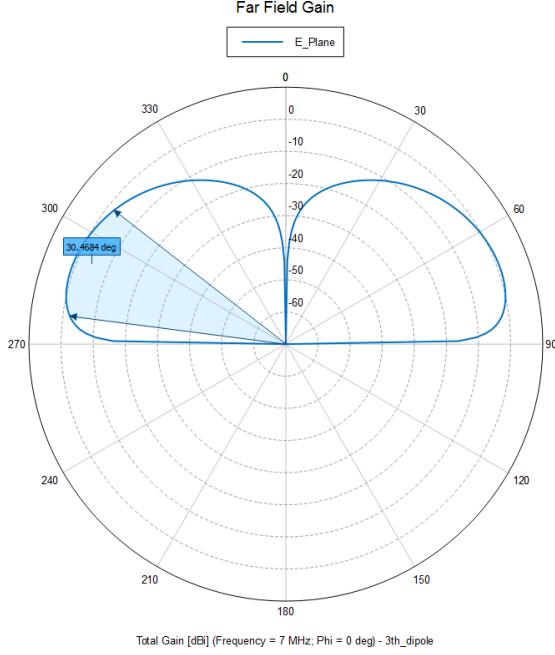
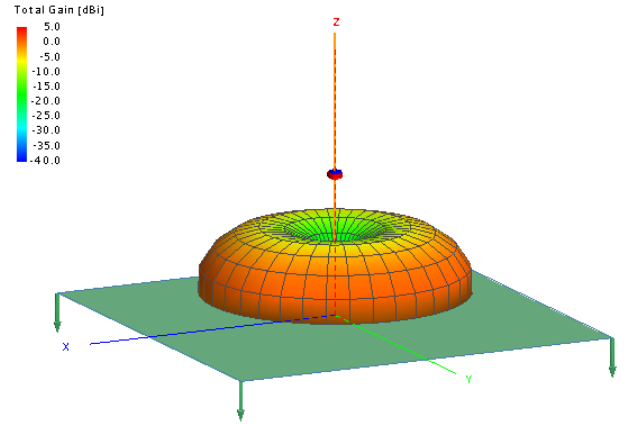

Fig. 7.  $\vec{E}$  field plot and 3dB beamwidth considering ground effects
Fig. 9.  $\vec{E}$  field plot considering a ground and 3dB beamwidth
1) *Effects on Gain:* After modeling the ground plane in FEKO, a change in the Gain was observed as shown in Figure 7. Here, it can be seen that the point where the transmission power is greatest is directed upwards such that  $\theta_{Ground} < \theta_{Ideal}$ .
4) *Effects on Radiation Pattern:* Having a ground plane under the antenna is akin to having a somewhat reflective surface under a tubular fluorescent lamp; RF energy that is reflected from the surface of the ground interferes with the waves that would otherwise travel straight, causing an overall change in the shape of the  $\vec{E}$  field shown in Figure 7. The 3D pattern is shown in Figure 9. Interestingly, this makes the antenna somewhat safer to be around as, instead of having